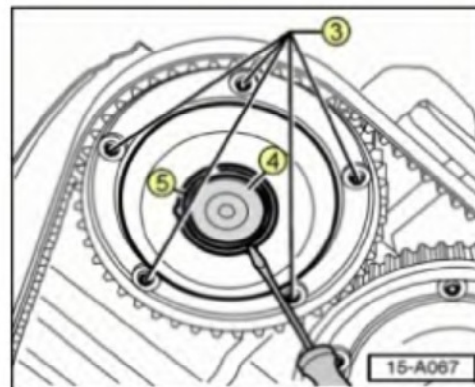

Figure 3. The outer bolts (3), caps (4), and O-Rings (5).
1. Retorque all five outer bolts (Figure 3, 3) on all four camshaft adjusters to 15 Nm. (The bolt heads are located on the back side of the camshaft adjuster gears.)
3. Replace caps (Figure 3, 4) and O-Rings (Figure 3, 5) and secure with securing ring (See Repair Manual, Group 15, "Camshaft and camshaft adjusters, removing and installing.")